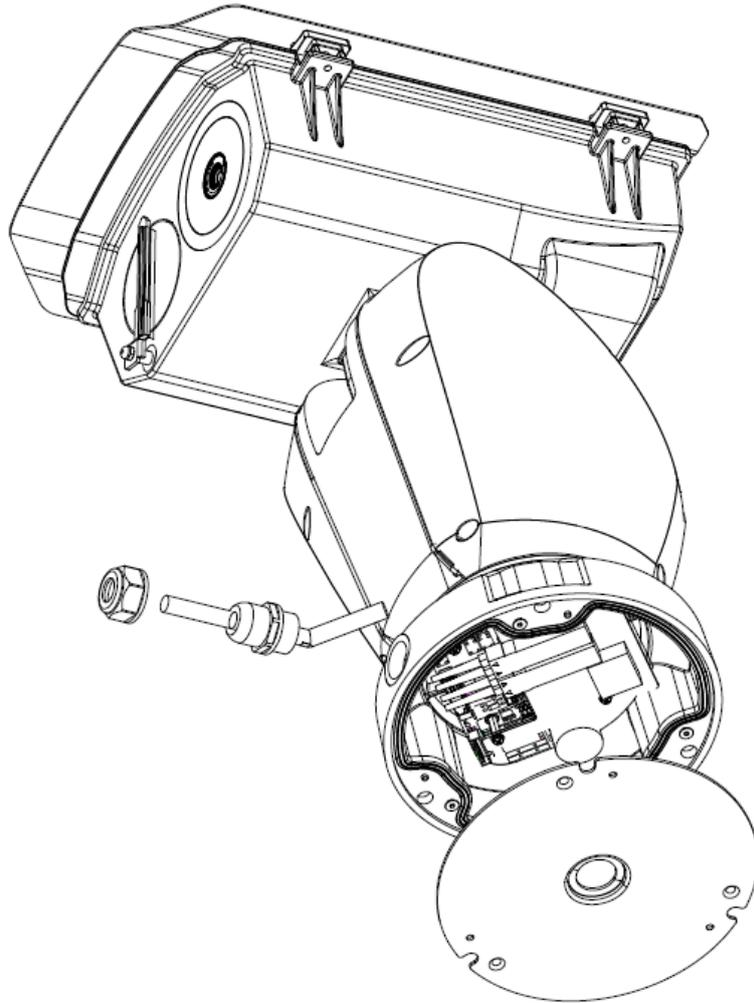

Figure 1-6
2. Pull out the white plug of combination cable, and loosen the connectors of combination cable and bottom cover respectively, then make the switch of cable exit from side to bottom. See Figure 1-6 for more details.